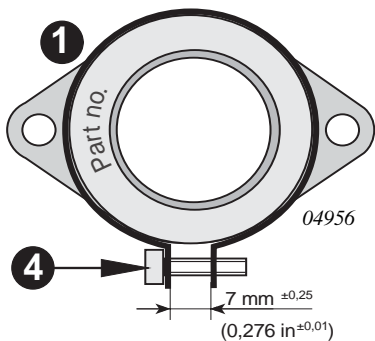

fig. 220
See fig. 220 and 221.
■ CAUTION: Tighten the hose clamp only to an extent that a gap of 7 mm (.275 in.) remains between the lugs. See fig. 220.